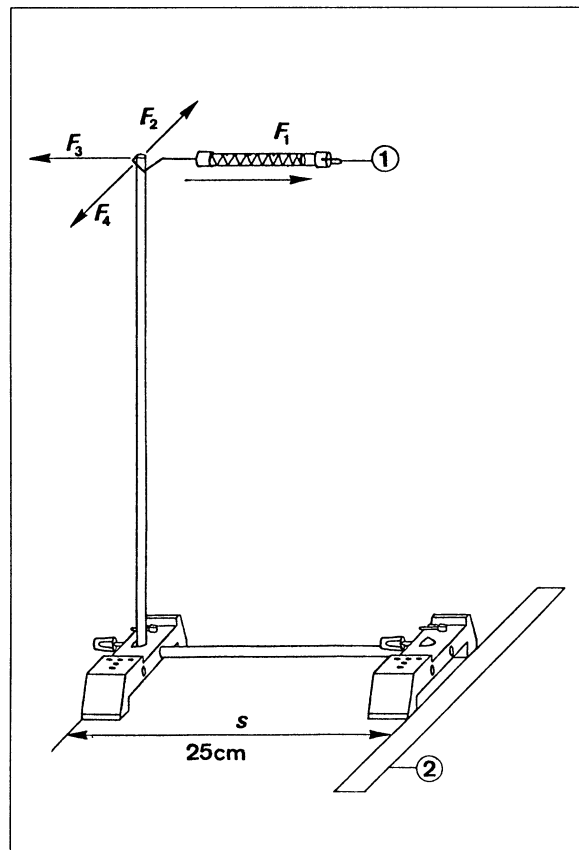

Fig. 1 Stand setup for testing stability
1. Assemble the stand bases and stand rods as shown in fig. 1.
Experiment part 1: testing the stability of the construction in fig. 1